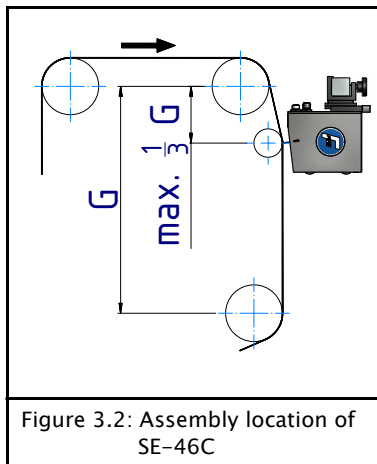

Figure 3.2: Assembly location of SE-46C
- The material edge must be guided through a support roller in the sensor field of view so that there is no plane change (see figure 3.2).